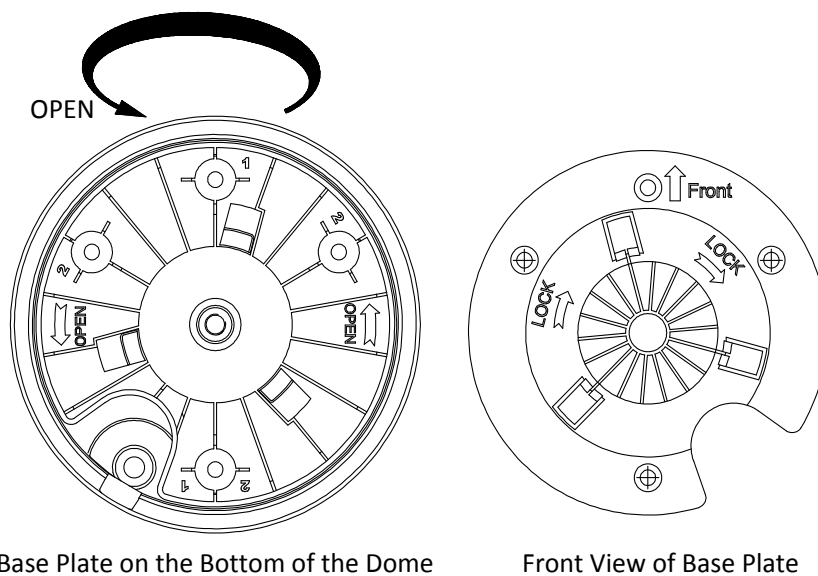
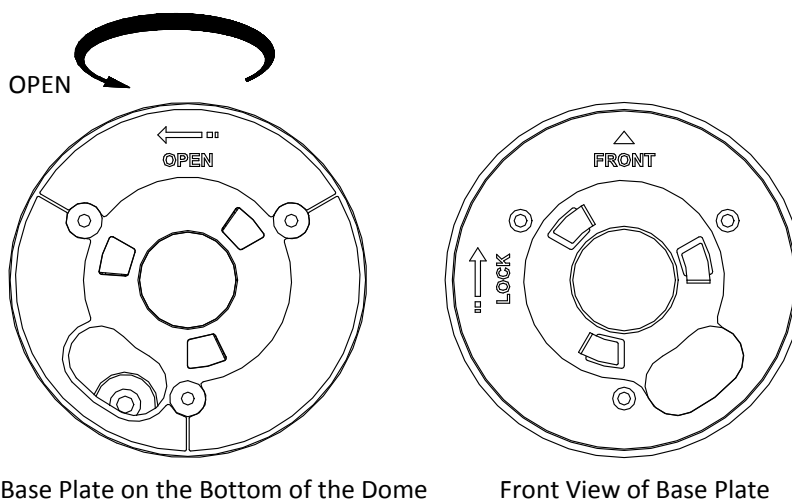

Figure 2-6 Separate the Base Plate– 2.5-inch Mini PTZ Camera
Figure 2-7 Separate the Base Plate – 2.5-inch Mini IR PTZ Camera
1. Rotate the base plate counterclockwise to separate it from the PTZ camera, as shown in the Figure 2-6 and Figure 2-7.